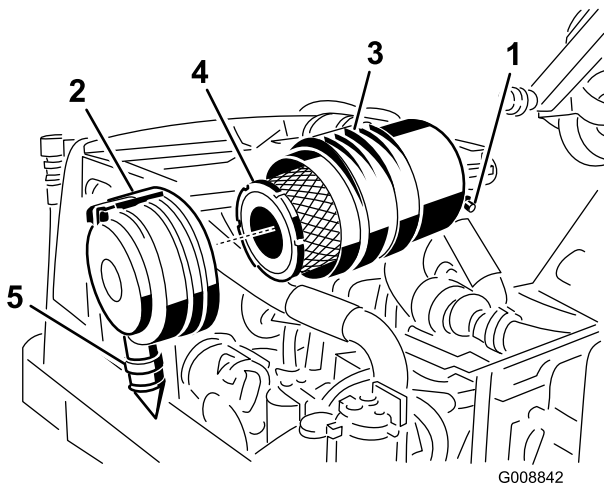
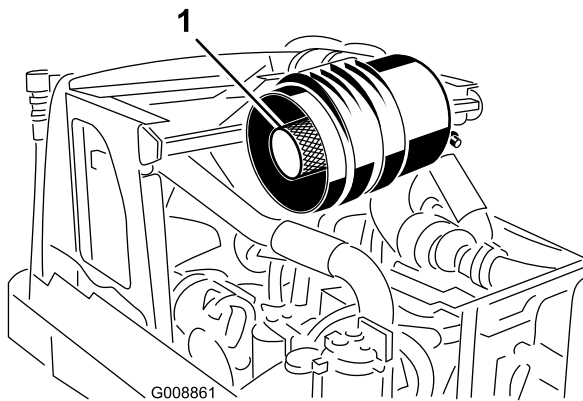

Figure 54
Figure 55
Service the air cleaner filter only when the service indicator (Figure 54). requires it. Changing the air filter before it is necessary only increases the chance of dirt entering the engine when the filter is removed.
1. Pull the latch outward and rotate the air cleaner cover counterclockwise (Figure 54).
2. Remove the primary filter (Figure 54). Cleaning of the used element is not recommended due to the possibility of damage to the filter media. Inspect the new filter for shipping damage, checking the sealing end of the filter and the body. Do not use a damaged element. **Do not** remove the safety filter (Figure 55).
Important: Never attempt to clean the safety filter (Figure 55). Replace the safety filter with a new one after every three primary filter services.
3. Replace the primary filter (Figure 54).
6. Install the cover orienting the rubber outlet valve (Figure 54) in a downward position - between approximately 5:00 to 7:00 when viewed from the end. Secure the latch.